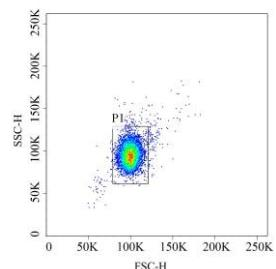

Figure 1
2) Create an FSC-H/SSC-H scatter plot. Adjust the gain of FSC and SSC to gate/identify the cytokine bead population using a rectangular P1 gate, as shown in (Figure 1).